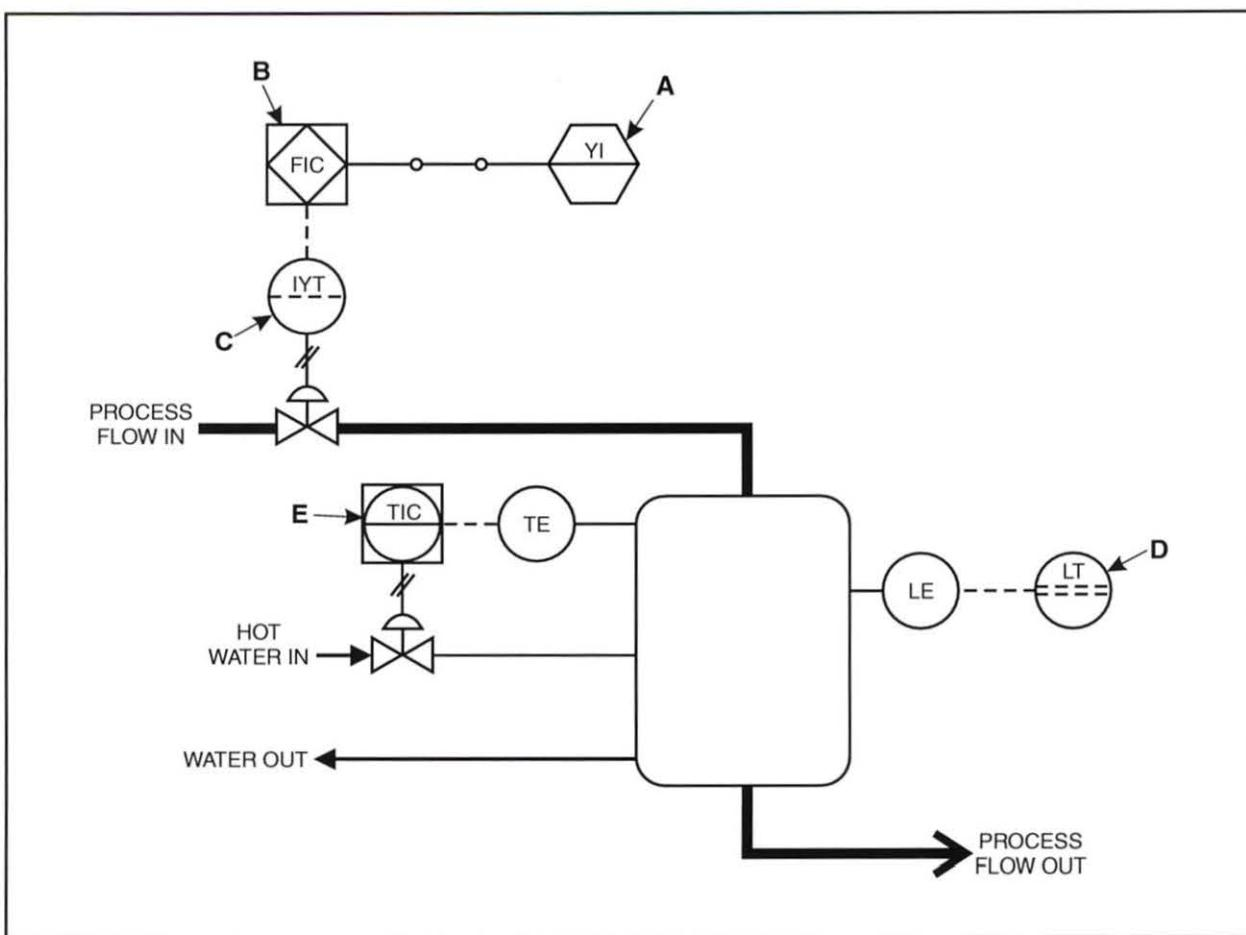

Figure 40. Temperature Control P&ID
□ 11. Determine the instrument information for each tag identified in figure 40.